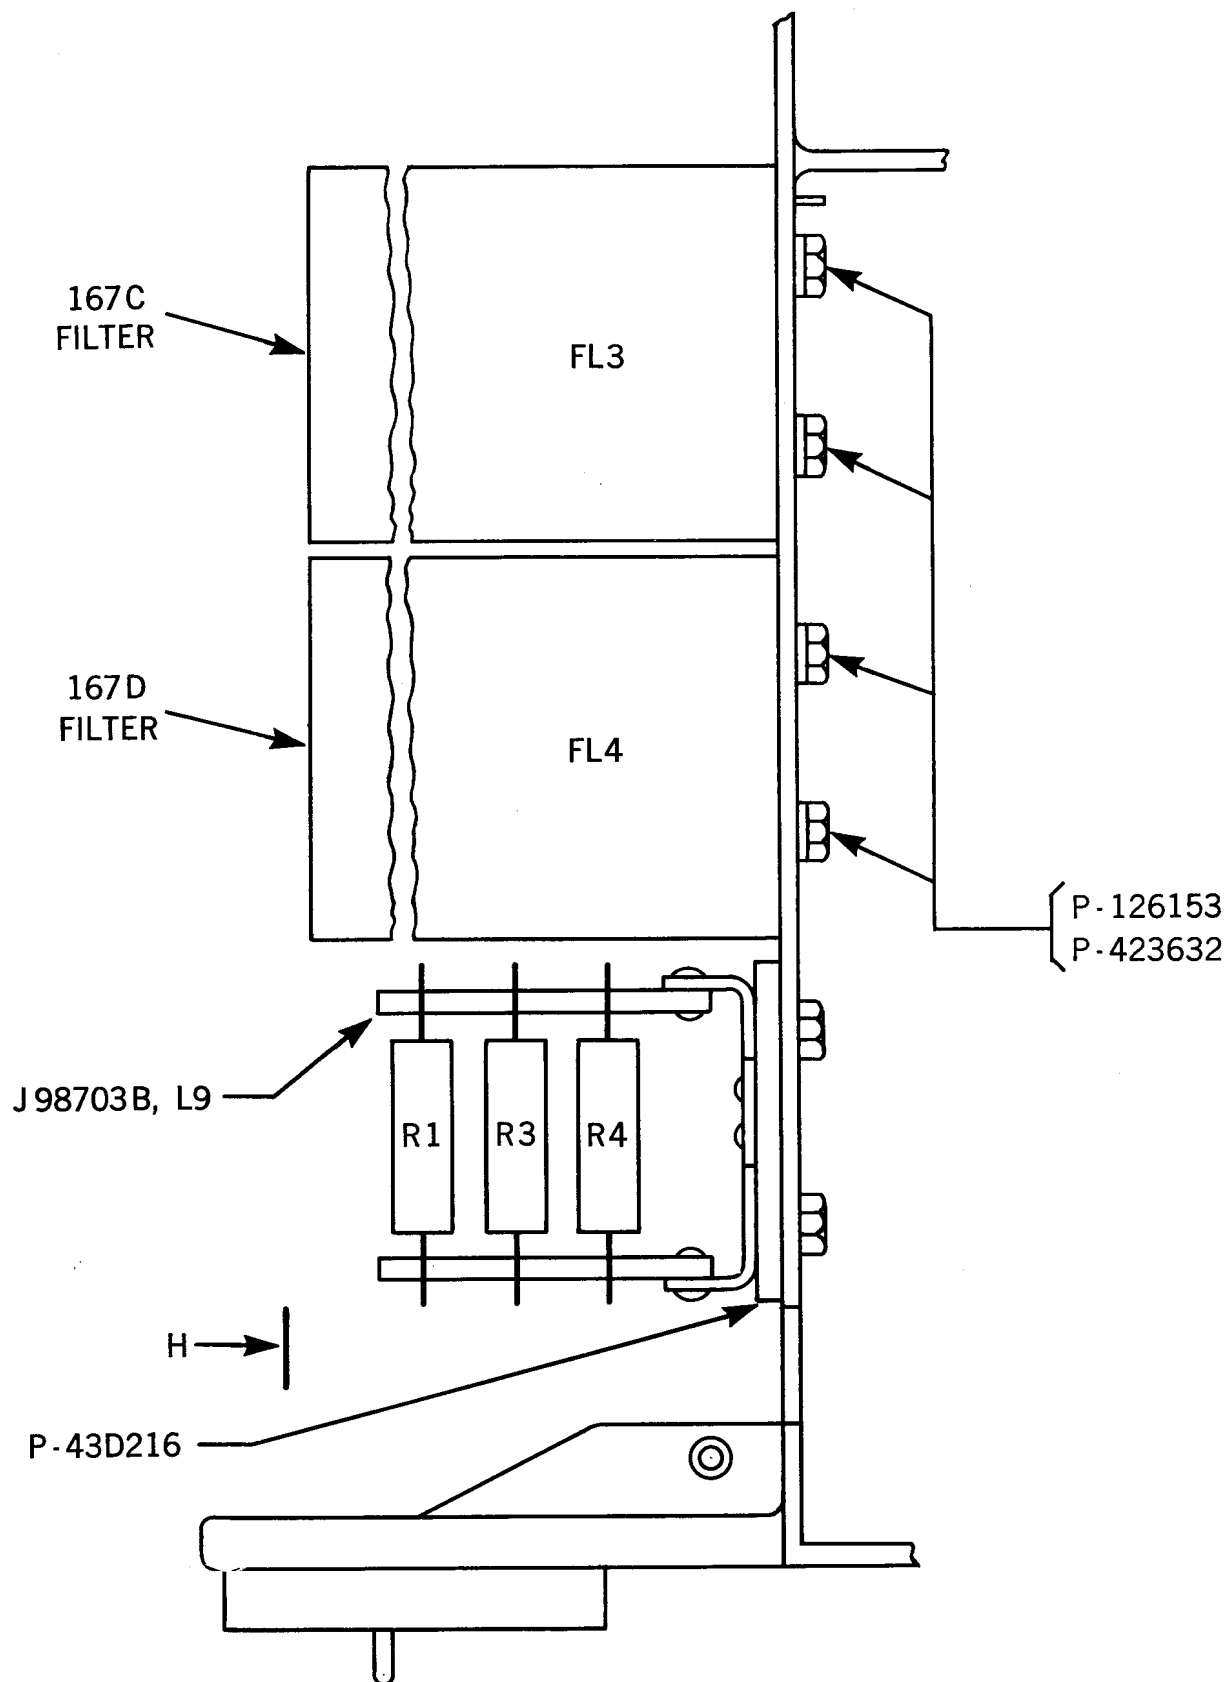
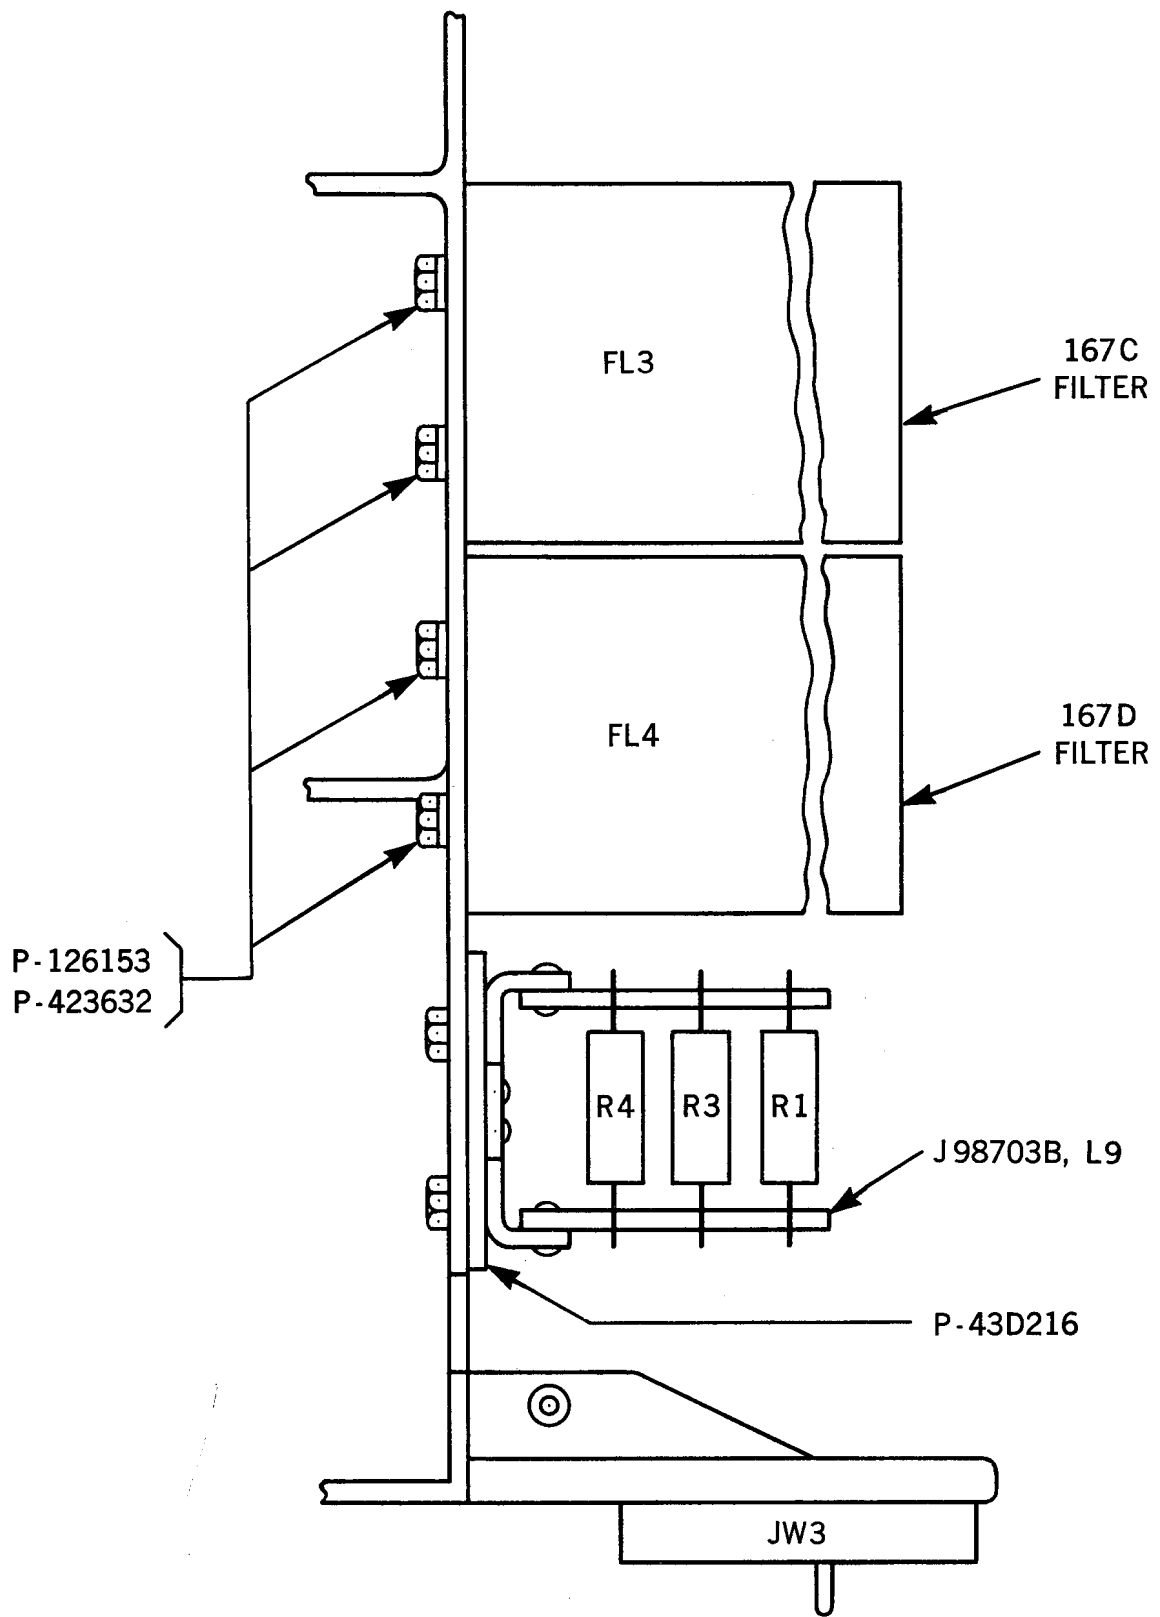

Fig. 2 - Part of L-L Subassembly per ED-92764-30 or ED-92846-30
Fig. 7 – Part of Subassembly per ED-92765-30 or ED-92860-30
3	<p>Method 1 — Adapter Plate P-43 D216 and Pad J98703B, L9 —</p> <p>(1) mount the adapter plate first and then mount the pad as shown in Figs. 2 and 3 or Figs. 7 and 8. If the pad is equipped with BL, BL-W and OR, OR-W leads, these should be unsoldered and discarded.</p> <p>(2) locate the G, G-W paired leads connected to terminals 0 and 1 of the JE or JW jack. Dress these leads along paths E and D shown in Fig. 5. Cut excess length and connect the G lead to R1 and the G-W lead to R4 of the pad.</p>
4	<p>Filters 167C (FL3) and 167D (FL4) —</p> <p>(1) mount and assemble the filters as shown in Figs. 2, 3 and 4 or Figs. 7, 8 and 9.</p> <p>(2) connect a G lead to terminal 6 and a G-W lead to terminal 4 of transformer T5. Dress these leads along paths B and C of Fig. 5 and connect the G lead to terminal 5 of FL3 and the G-W lead to terminal 7 of FL3.</p> <p>(3) strap terminal 6 of FL3 to terminal 5 of FL4 and terminal 7 of FL3 to terminal 7 of FL4.</p> <p>(4) locate the G, G-W paired leads connected to terminals 1 and 3 of transformer T3. Dress these leads along path F of Fig. 5 and connect the G lead to terminal 6 of FL4 and the G-W lead to terminal 7 of FL4. This completes the wiring of the filters.</p> <p>(5) unsolder capacitor C18 (130 uuf) from terminals 1 and 3 of transformer T3 and replace with the 200 uuf capacitor.</p> <p>(6) unsolder the G, G-W paired leads from terminals 12 and 13 of the JE or JW jack. Locate the G, G-W paired leads connected to terminals 3 and 1 of transformer T4. Dress these leads along paths A, C and E of Fig. 5 and connect the G lead to terminal 12 and the G-W lead to terminal 13 of the JE or JW jack.</p>
6	<p>Method 2 — Adapter Plate P-43 D216 and Pad J98703B, L9 —</p> <p>(1) mount the adapter plate first and then mount the pad as shown on Figs. 2 and 3 or Figs. 7 and 8. If the pad is equipped with BL, BL-W and OR, OR-W leads, unsolder the OR, OR-W leads from the pad and discard.</p> <p>(2) unsolder the G, G-W paired leads from terminals 0 and 1 of the JE or JW jack. These leads are then connected to the pad with the G lead connected to R2 and the G-W lead connected to R5 of the pad. Dress the BL, BL-W paired leads of the pad along paths E and D of Fig. 5 and connect the BL lead to terminal 0 and the BL-W lead to terminal 1 of the JE or JW jack.</p> <p>(3) remove the G1 stamping and restamp the unit G2; i.e., ED-92846-30, G2 or ED-92860-30, G2.</p>